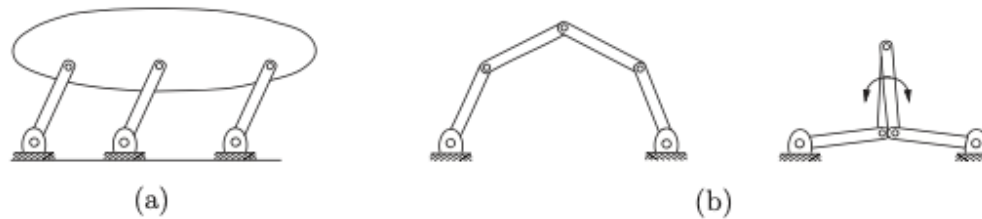

Figure 2.7: (a) A parallelogram linkage. (b) The five-bar linkage in a regular and singular configuration.
- For the parallelogram linkage of Figure 2.7(a), $N = 5$, $J = 6$, and $f_i = 1$ for each joint.
- For the two-dof planar five-bar linkage of Figure 2.7(b), if the two joints connected to ground are locked at some fixed angle, the five-bar linkage should then become a rigid structure.
- If the two middle links are the same length and overlap each other, as illustrated in Figure 2.7(b), these overlapping links can rotate freely about the two overlapping joints.